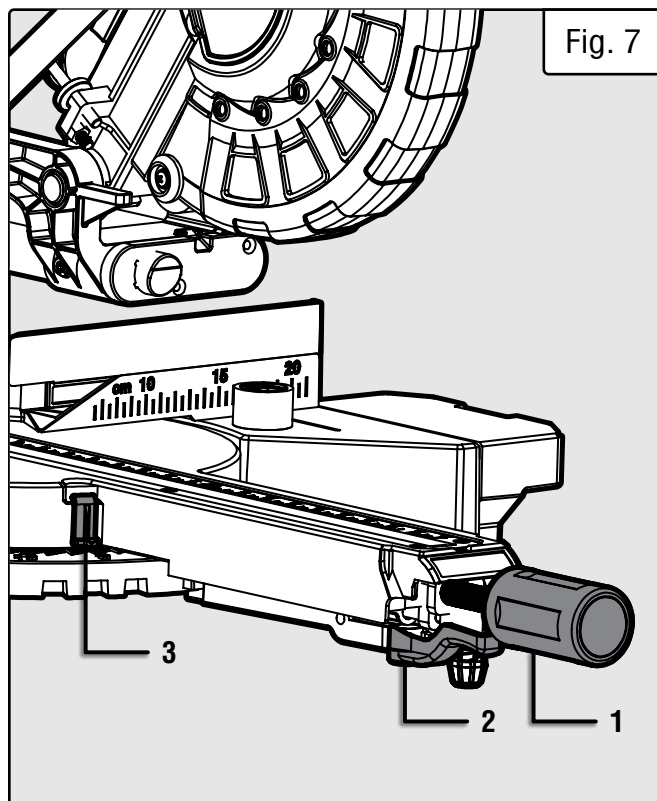

Fig. 7
1. Loosen the miter lock knob (Fig. 7 - 1) by turning it counterclockwise.
2. Pull up on the miter stop lever (Fig. 7 - 2) to unlock the table. While holding the miter angle adjustment lever up, adjust the table to the desired angle. The miter scale indicator (Fig. 7 - 3) will point towards the selected angle. To make micro adjustments to a specific angle, rotate the table while pulling up on the miter stop lever. The miter table has positive stops at 0°, 15°, 22.5°, 30°, 45° in both directions for quick adjustments.